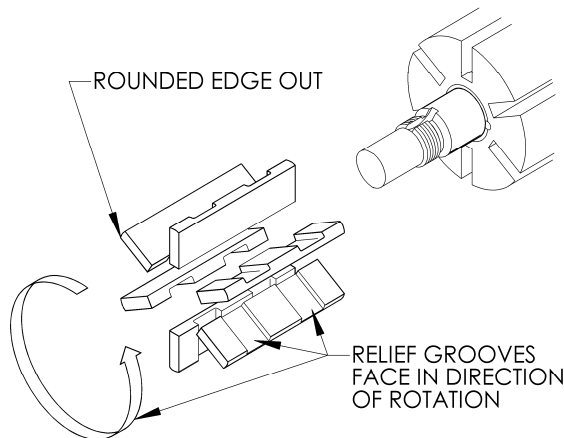
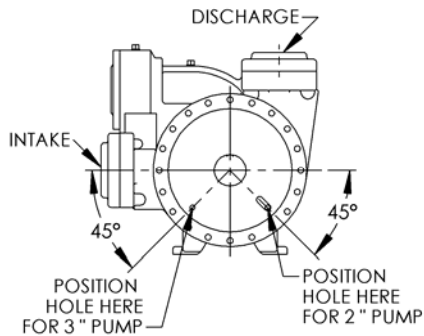

Figure 8 – Vane Installation
Figure 9 - Disc Relief Hole Location
3. Turn the shaft by hand until a vane (14) comes to the top (12 o'clock) position of the rotor. Remove the vane.
4. Install a new vane (14), ensuring that the rounded edge is UP, and the relief grooves are facing towards the direction of rotation. See Figure 8.
1. On 2-inch pump models, apply grease to the liner key groove in the pump casing to hold the key (74) in place during liner installation. Install key in groove before starting liner (41) into pump casing (12). On 3-inch pump models, install the liner key (74) in the groove on top of the liner (41).
2. Align the liner key (74) with the pump casing keyway and start the liner (41) into the casing (12) with the slots in the liner towards the INTAKE port, and the hole pattern in the liner towards the DISCHARGE port. Uniformly tap the outer edge of the liner with a rubber mallet to fully insert into the casing. NOTE: If the liner is installed backwards, it will restrict the port openings and cause cavitation, noise and loss of capacity.
3. Place the disc (71) against the liner (41) with the seal cavity outward and disc relief hole located as shown in Figure 9.
4. Without installing the head O-ring or mechanical seal components, temporarily attach the outboard head (20) and bearing (24) to the casing (12). Install and hand tighten two head capscrews (21), 180 degrees apart. This head will be used to hold and align the rotor and shaft (13) while the inboard side of the pump is assembled.
5. Remove the vanes (14) and push rods (77) from the rotor and shaft assembly (13). Inspect for wear and damage, and replace as follows:
- a. Partially install the non-driven end of the rotor and shaft (13) into the open side of the pump casing (12). On single-ended shafts, verify the rotation direction before proceeding.
- b. Leave part of the rotor outside of the casing (12) so that the bottom vanes (14) can be installed and held in place as the push rods (77) are installed in the push rod holes of the rotor. Insert the new vanes into the rotor slots with the rounded edges outward, and the vane relief grooves facing TOWARDS the direction of rotation. See Figure 8.
- c. After the bottom vanes and push rods are installed, insert the rotor and shaft (13) fully into the casing (12).
- d. Install the remaining vanes (14) into the top positions of the rotor.
6. Install the disc (71) on the inboard side of the pump with the seal cavity facing outward and the disc relief hole located as shown in Figure 9.